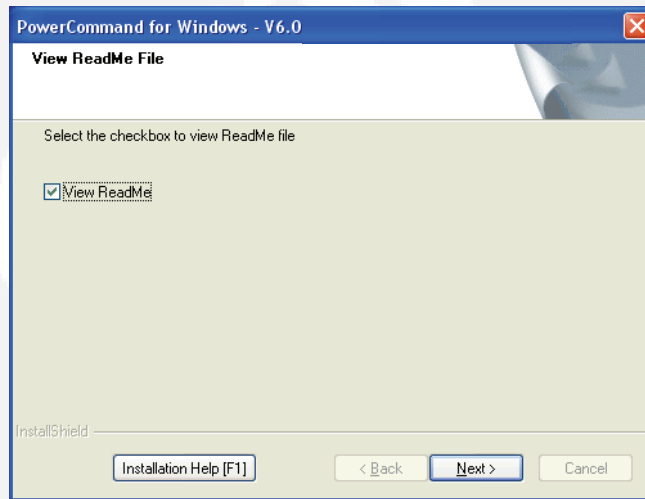

FIGURE 2-7. VIEW README FILE
8. At the *View ReadMe File* window, click inside the **View ReadMe** checkbox (recommended) to select it. Click on the **Next** button to proceed. Figure 2-7.